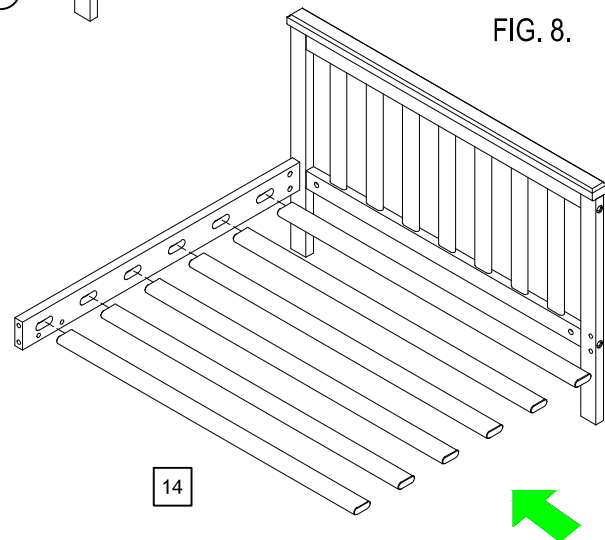

FIG. 8.
- Insert Cross slat (14) into Right Side rail as shown in FIG.8.